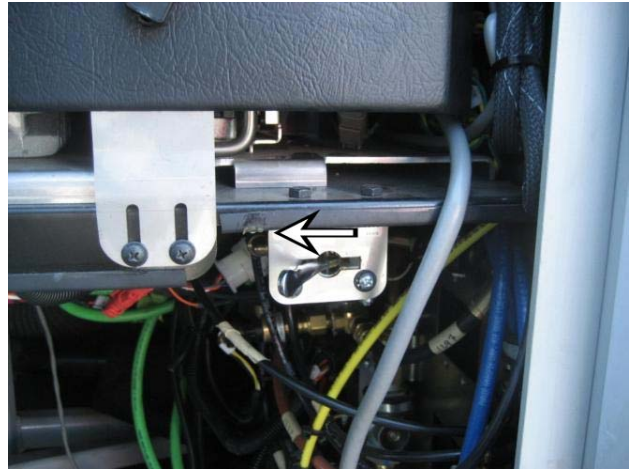

FIG.57
6. Raise the tag axle to prevent it from hanging unsupported. To do so, open the front service compartment located on street side and move the tag axle air valve lever forward as shown on figure 57.